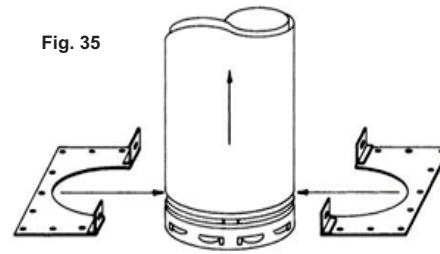

Fig. 35
3. Surround the vent pipe with the two identical Firestop Support Plate halves (see Fig. 35). Engage the plate edges in the uppermost recess as described in Step 2. Use two pair of bolts and nuts to hold the plate halves together. Four predrilled tabs are provided for this purpose.